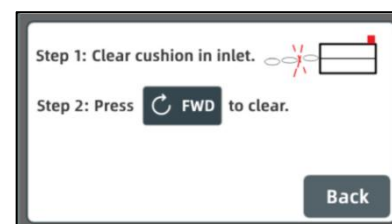

Figure 8
- 1) Tap  on the home page to enter this page. (Figure 8)